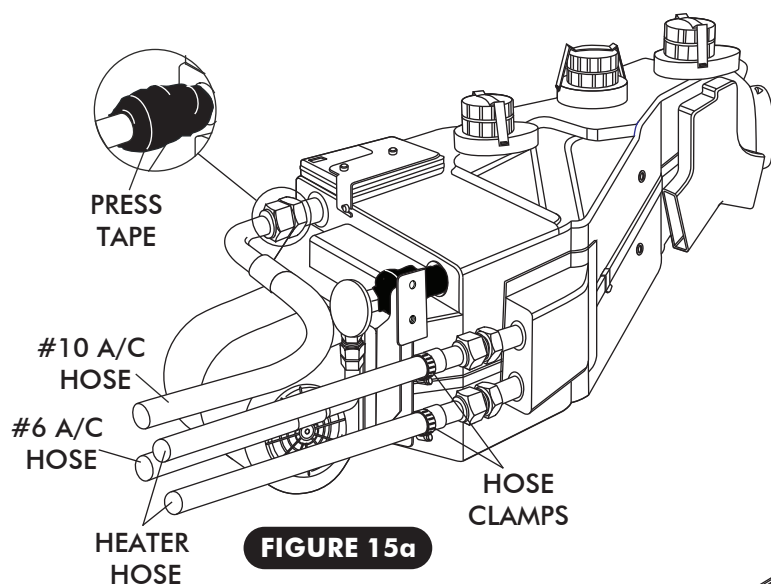
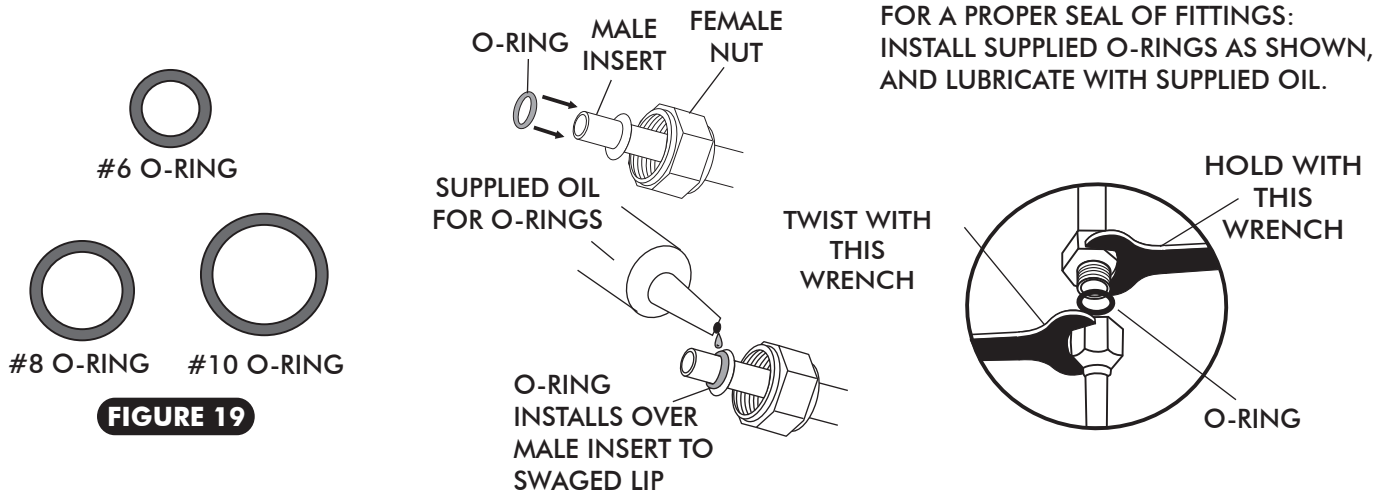

FIGURE 15a
FIGURE 19
- ☐ ON A WORKBENCH, INSTALL EVAPORATOR REAR BRACKET AND A/C & HEATER HOSE WITH PROPERLY LUBRICATED O-RINGS (SEE FIGURE 14, PAGE 12, AND FIGURE 15a, PAGE 13).
- ☐ LOCATE THE #8 COMPRESSOR A/C HOSE. LUBRICATE (2) #8 O-RINGS (SEE FIGURE 19, ABOVE) AND CONNECT THE 90° FEMALE FITTING w/ R134a SERVICE PORT TO THE #8 DISCHARGE PORT ON THE COMPRESSOR. ROUTE THE 45° FEMALE FITTING TO THE #8 CONDENSER HARDLINE COMING THROUGH THE CORE SUPPORT (SEE FIGURE 20, PAGE 17). TIGHTEN EACH FITTING CONNECTION AS SHOWN IN FIGURE 19, ABOVE.
- ☐ LOCATE THE #10 COMPRESSOR A/C HOSE. LUBRICATE (2) #10 O-RINGS (SEE FIGURE 19, ABOVE) AND CONNECT THE #10 135° FEMALE FITTING w/ R134a SERVICE PORT TO THE #10 SUCTION PORT ON THE COMPRESSOR. ROUTE THE 90° FEMALE FITTING TO THE #10 EVAPORATOR (SEE FIGURE 15a, PAGE 13, AND FIGURE 20 PAGE 17). TIGHTEN EACH FITTING CONNECTION AS SHOWN IN FIGURE 19, ABOVE.
- ☐ LOCATE THE #6 EVAPORATOR A/C HOSE. LUBRICATE (2) #6 O-RINGS (SEE FIGURE 19, ABOVE) AND CONNECT THE 90° FEMALE FITTING TO THE #6 HARDLINE COMING THROUGH THE CORE SUPPORT FROM THE DRIER. ROUTE THE 90° FEMALE FITTING TO THE #6 EVAPORATOR (SEE FIGURE 15a, PAGE 13, AND FIGURE 20, PAGE 17). TIGHTEN EACH FITTING CONNECTION AS SHOWN IN FIGURE 19, ABOVE.
ROUTE A PIECE OF HEATER HOSE FROM THE WATER PUMP TO THE TOP HEATER FITTING OF THE HEATER CORE AS SHOWN IN FIGURE 15a, PAGE 13, AND FIGURE 20, BELOW. SECURE USING HOSE CLAMPS.
ROUTE A PIECE OF HEATER HOSE FROM THE INTAKE TO THE BOTTOM HEATER FITTING OF THE HEATER CORE AS SHOWN IN FIGURE 15a, PAGE 13, AND FIGURE 20, BELOW. **NOTE: INSTALL HEATER CONTROL VALVE IN LINE WITH INTAKE MANIFOLD (PRESSURE SIDE) HEATER HOSE, AND SECURE USING HOSE CLAMPS AS SHOWN IN FIGURE 20, BELOW. ALSO NOTE PROPER FLOW DIRECTION.**